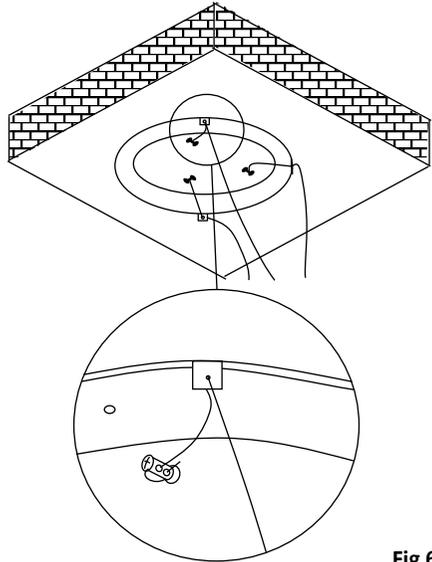

Fig 6
4. Thread the wires through the 3 holes on the ceiling bracket (Fig 6).